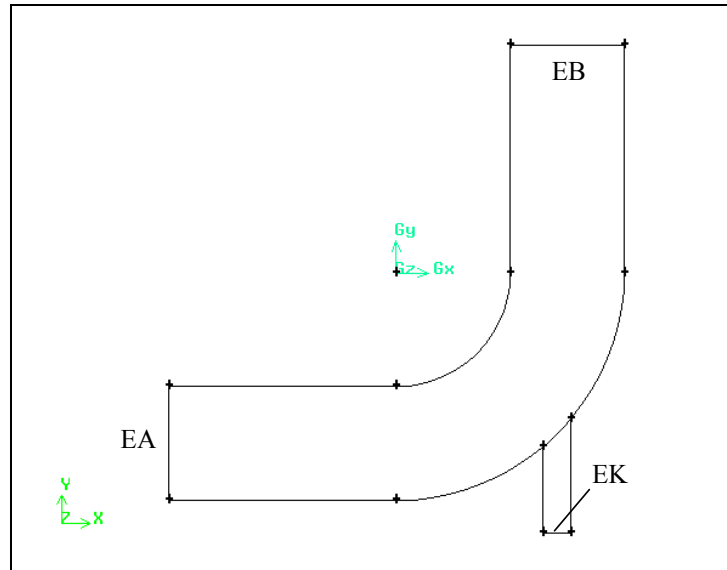

Figure 2-22: Boundary types for edges of mixing elbow
- iv. *Shift*-left-click the main inflow for the mixing elbow in the graphics window (marked EA in Figure 2-22) and click **Apply** to accept the selection.
- vi. Check that **INFLOW** is still selected in the **Type** option menu and select the edge marked EK in Figure 2-22 (the inlet for the small pipe). Click **Apply** to accept the selection of the edge.
- iii. Select the main outflow for the mixing elbow (the edge marked EB in Figure 2-22) and click **Apply** to accept the selection.